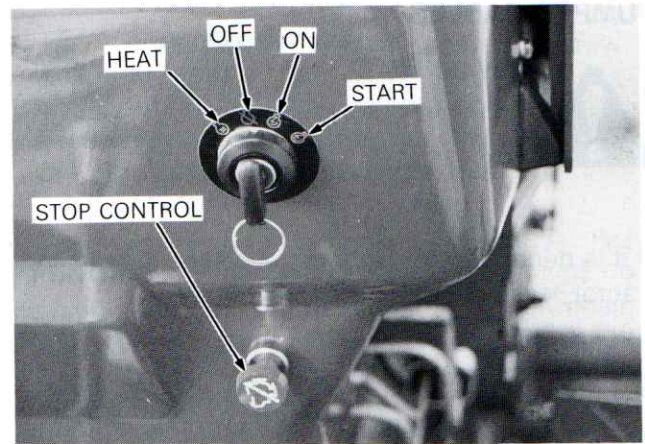

Figure 17 — Key Switch and Stop Control
3. Turn the key switch to the "START" position, Figure 17. When the engine starts, release the key. Check to be sure the warning lights go out. If the engine fails to start after cranking for approximately 10 seconds, refer to the following "COLD WEATHER STARTING" information.
Pull the hand throttle fully rearward, pull the stop control to stop the engine and turn the key switch to the "OFF" position shown in Figure 17.